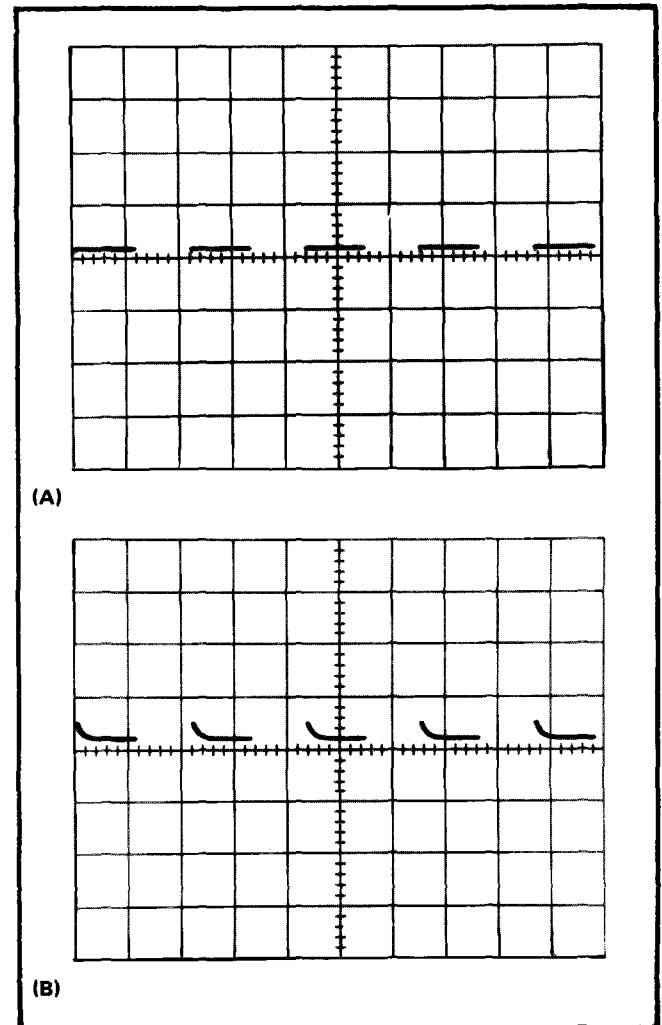

Fig. 5-3. Typical waveform showing (A) Cross neutralization properly adjusted, (B) incorrectly adjusted.
- CHECK—The upper leading corner of the waveform, and note any aberration that occurs while switching the —INPUT AC-GND-DC switch from GND to DC. The waveform should appear similar to the one in Fig. 5-3. The aberration should not exceed  $\pm 1\%$ .
c. CHECK—The lower leading corner of the second cycle of the display and note any aberration that occurs while switching the +INPUT AC-GND-DC switch from GND to DC. The bottom leading corner of the waveform should appear similar to the one shown in Fig. 5-3. The aberration should not exceed  $\pm 1\%$ .